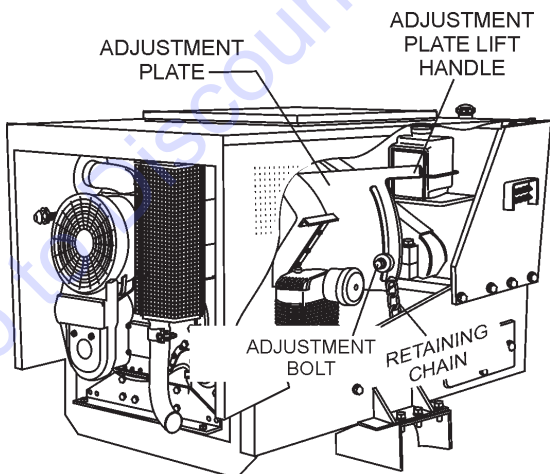

Figure 31. Speed Reducer (Hardware)
1. Release the adjustment plate retaining chain (Figure 31) that secures the speed reducer to the pump frame, then remove the adjustment bolt from the slider cavity.